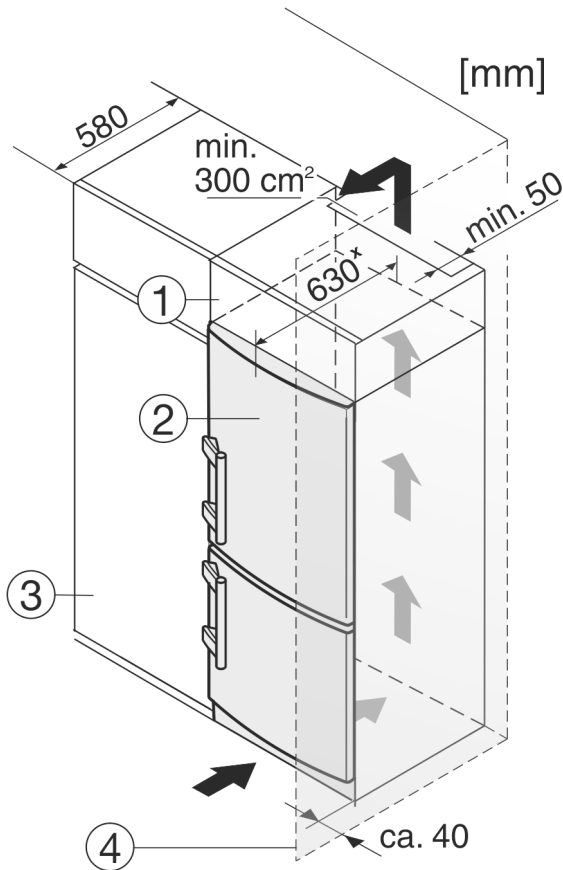

Fig. 9
The appliance can be built into kitchen units. A top cupboard Fig. 9 (2) can be added above the appliance in order to bring the appliance Fig. 9 (1) up to the height of the fitted kitchen units.
When fitting kitchen cupboards around the appliance (max. depth 580 mm), you can install the appliance directly next to the kitchen cupboard Fig. 9 (3). The appliance protrudes 34 mm x to the side and 50 mm x in the centre of the appliance in relation to the kitchen cupboard front.
If the appliance is set up with the hinges next to a wall Fig. 9 (4), the distance between the appliance and the wall must be at least 40 mm. This is how far the handle protrudes when the door is open.